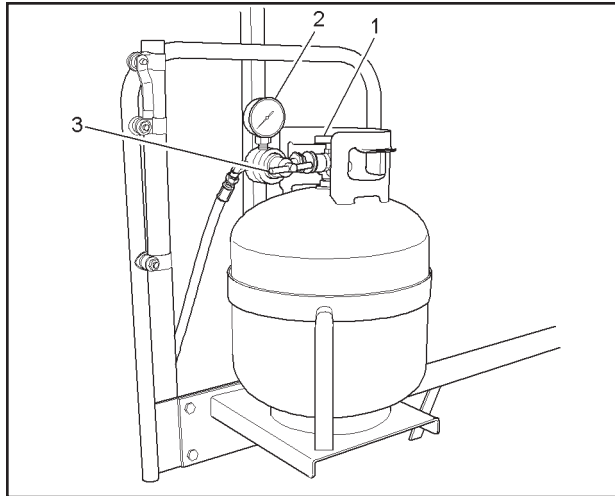

FIGURE 3-9. PROPANE TANK WITH REGULATOR
Heating the screed requires extreme care. The propane gas used to heat the screed is volatile and combustible. When treated with respect the propane will not present a problem. Follow the procedures below and refer to Figures 3-9, 3-10 and 3-11.
2. Turn main propane valve ON and set regulator (Figure 3-9, item 3) for 15 lbs. (1 bar).